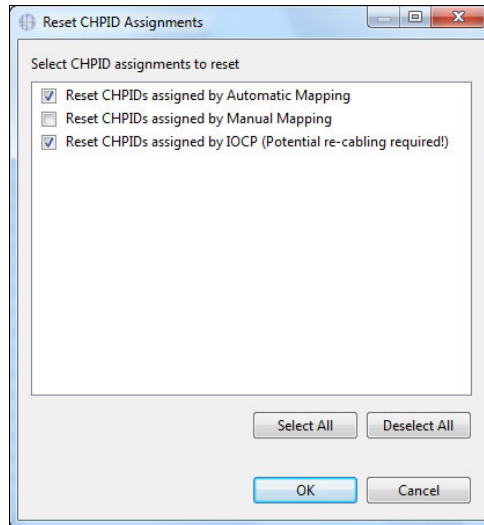

Figure 6-88 CMT - Reset CHPID Assignments
2. The Reset CHPID Assignments window opens with Reset choices (Figure 6-88). For the example, select the following two options and then click **OK**: